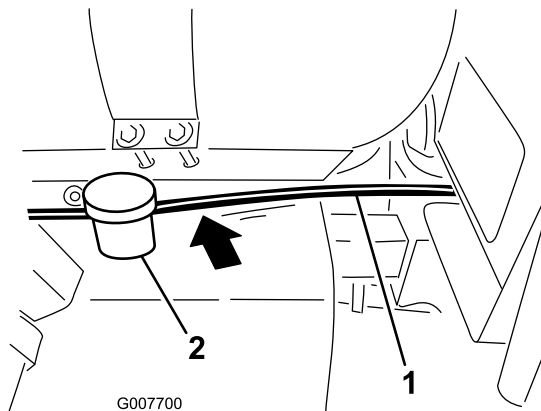

Figure 11
2. Route the hose from the foam marker bracket forward, below the chemical tank and behind the fuel tank, along with existing wiring to the area under the seat box (Figure 11).